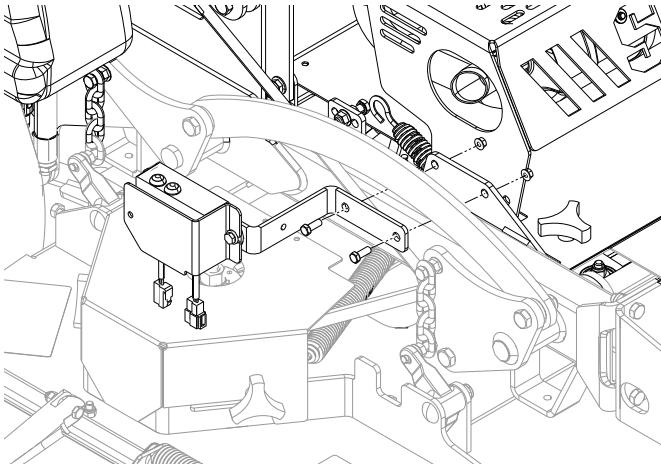

Figure 3-44. SVRXL RF Module Mount
3. Attach RF Control Module mounting bracket to mainframe assembly. See Figure 3-44.